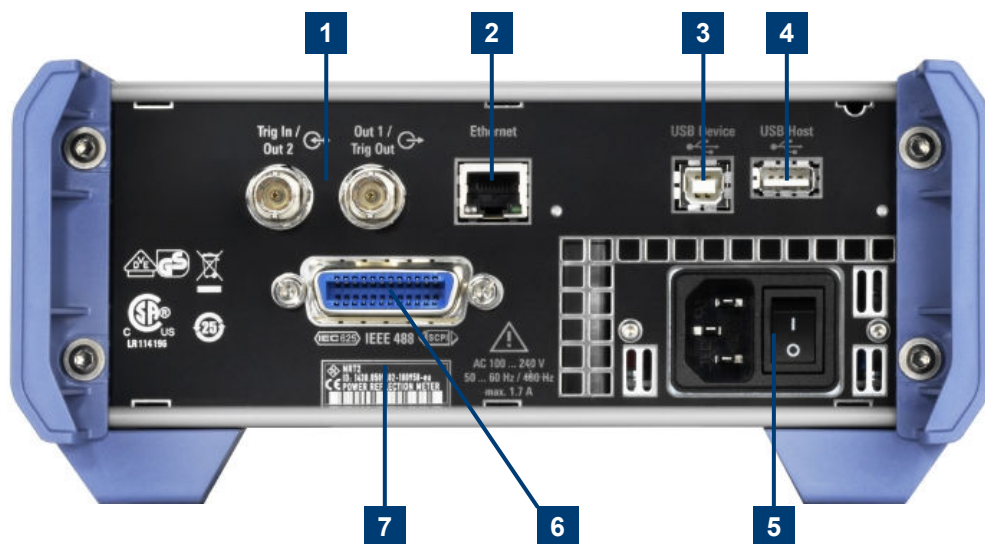

Figure 3-3: Rear panel of the R&S NRT2
See (1) in Figure 3-3.
See (2) in Figure 3-3.
See (3) in Figure 3-3.
See (4) in Figure 3-3.
See (5) in Figure 3-3.
See (6) in Figure 3-3.
See (7) in Figure 3-3.